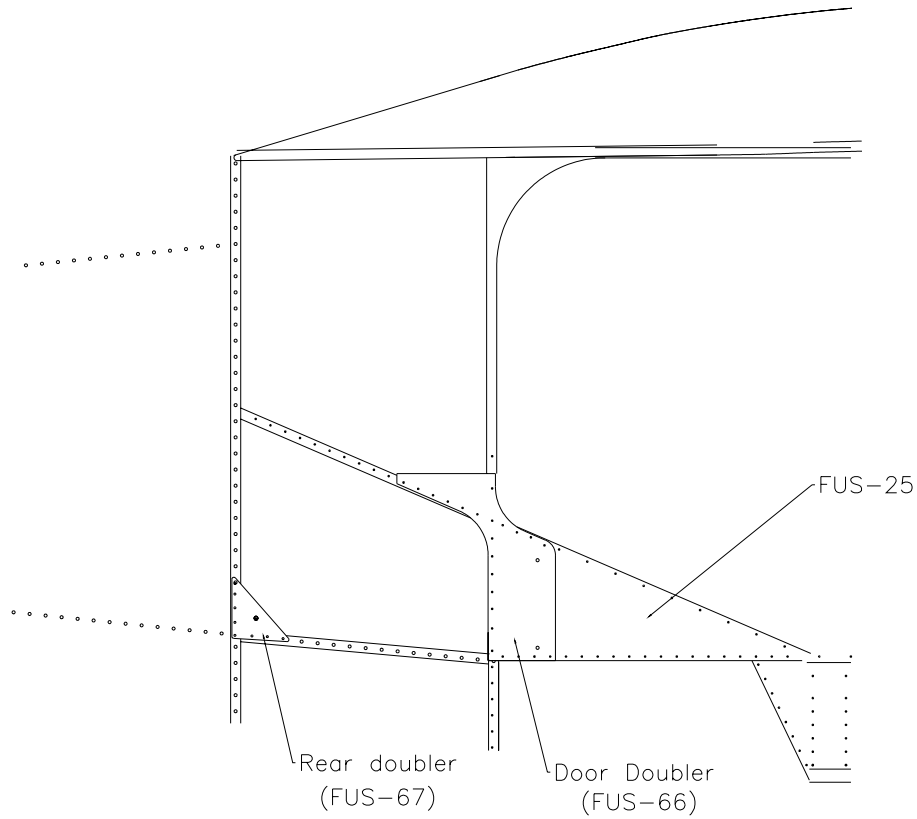

Figure 20.5.8
7) Put the doublers in, on the inside of the pilots door and drill #30 holes for attachment to the fuselage. Figure 20.5.8.